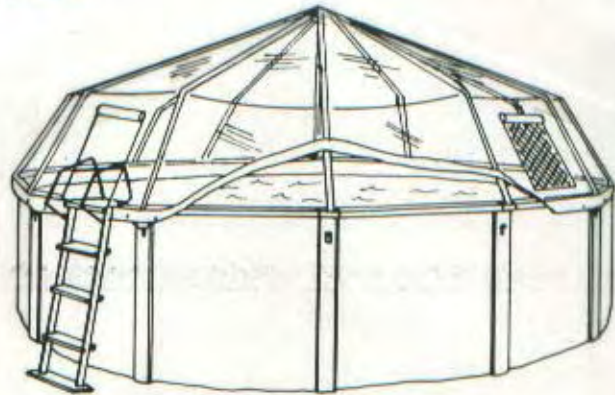

FIGURE 19
- If the air inside the dome becomes too hot and humid, open the dome's door and windows. You can also release the tiedown line and neoprene cords and fold the cover up onto the rafters. See Figure 19.